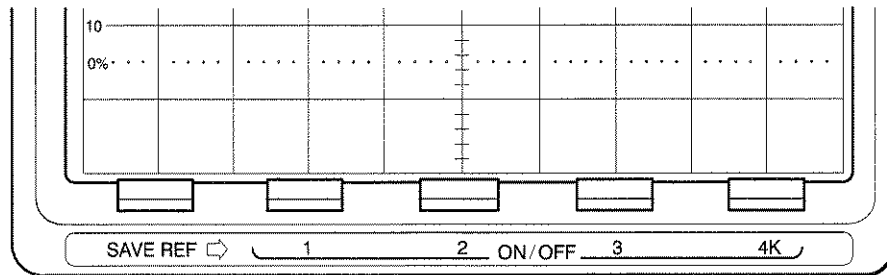

Figure 3-42: SAVE REF Memory Buttons
- ☐ **Step 3:** Press the **SAVE REF** button underneath the display (Figure 3-42). The current acquisition stops and a display readout appears that indicates the status of each memory location as either full or empty.